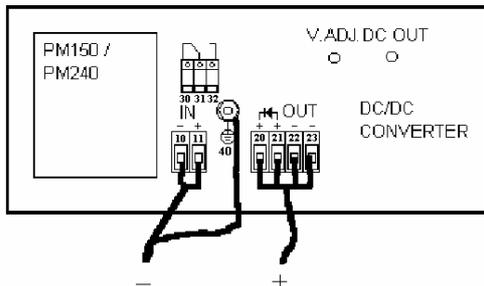

Figure 6. Output to case isolation voltage test.
- Connect your isolation tester between output and case. See *Figure 6*. Raise the voltage of the isolation tester from 0 to 4000Vd.c. Check that the leakage current does not exceed 5 μ A. The voltage should not be applied for more than a few seconds or the Y-capacitors might be damaged.
4. Connect your isolation tester between output and case. See *Figure 6*. Raise the voltage of the isolation tester from 0 to 2500V a.c. The voltage should not be applied for more than one (1) minute or the Y-capacitors might be damaged.